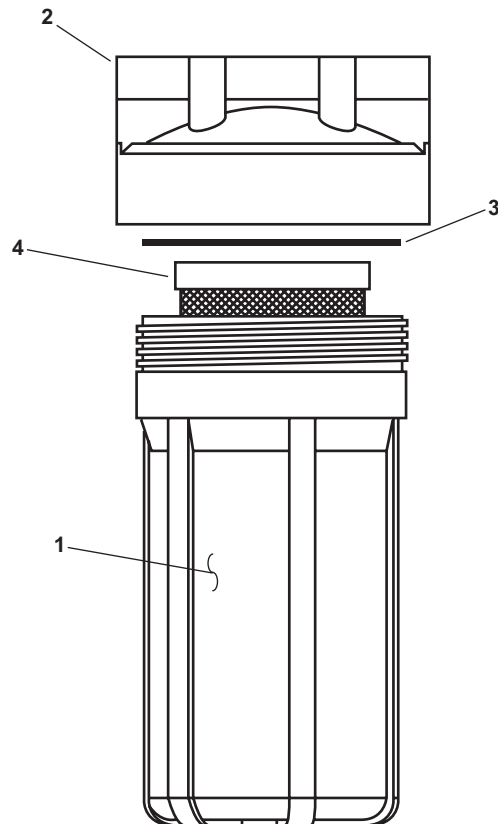

Figure 1. Charcoal Filter Assembly
1. Grasp and slowly rotate the applicable filter bowl (figure 1, item 1) counterclockwise until it separates from the lid (figure 1, item 2).
2. Remove and discard the O-ring (figure 1, item 3).
3. Remove and discard the carbon briquette (filter element) (figure 1, item 4).
4. Remove all debris and foreign matter from the filter bowl (figure 1, item 1).
5. Thoroughly clean the lid (figure 1, item 2) and filter bowl (figure 1, item 1) using fresh water and clean rags.
1. Place the new carbon briquette (filter element) (figure 1, item 4) into the filter bowl (figure 1, item 1).
2. Lubricate the new O-ring (figure 1, item 3) with silicone lubricant, and install it on the filter bowl (figure 1, item 1).
3. Position the filter bowl (figure 1, item 1) in contact with the lid (figure 1, item 2), and tighten until snug.